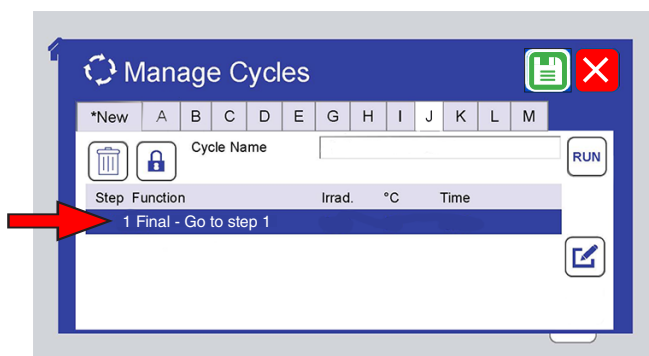

Figure 7.8: An empty cycle is created with only a final step (Section 11.6.7).
- Every test cycle must have a “Final - Go to step 1” step (Figure 7.8).